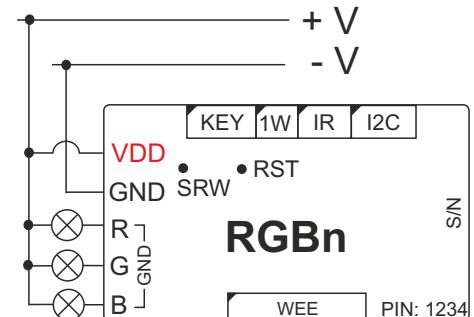

Fig.1 Wiring diagram RGB connector
1. Note of the card PIN and Serial Number (SN) device (Both located on the housing of the device)
2. Connect cables +V, -V, R, G, B as on Fig.1